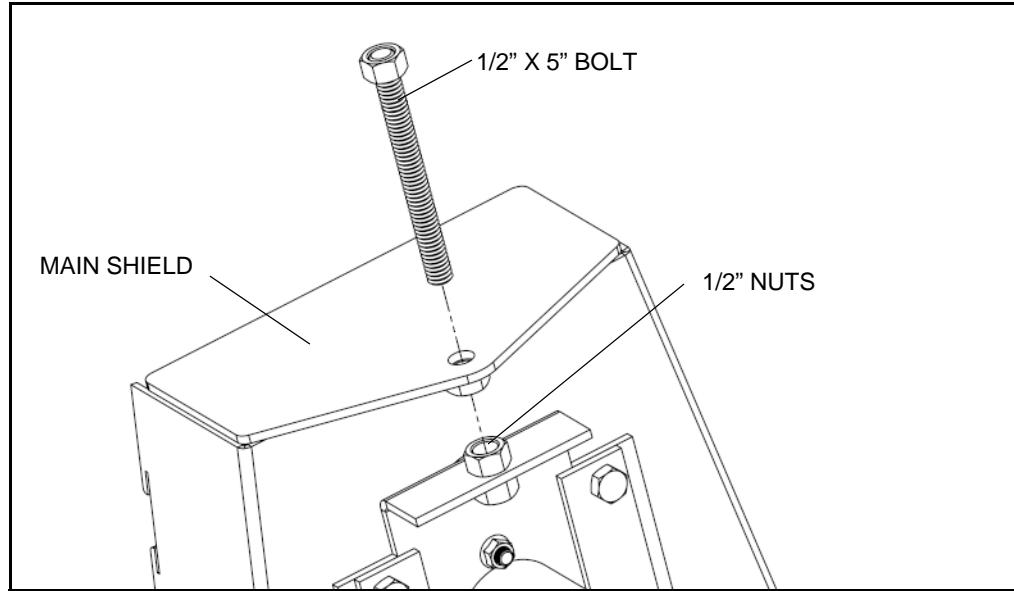

Figure 3.47
12. Install tensioner bolt at the top end of main shield and PTO idler with $1/2'' \times 5''$ bolt and three $1/2''$ nuts (Figure 3.47). Adjust the location of the slide using the nuts.